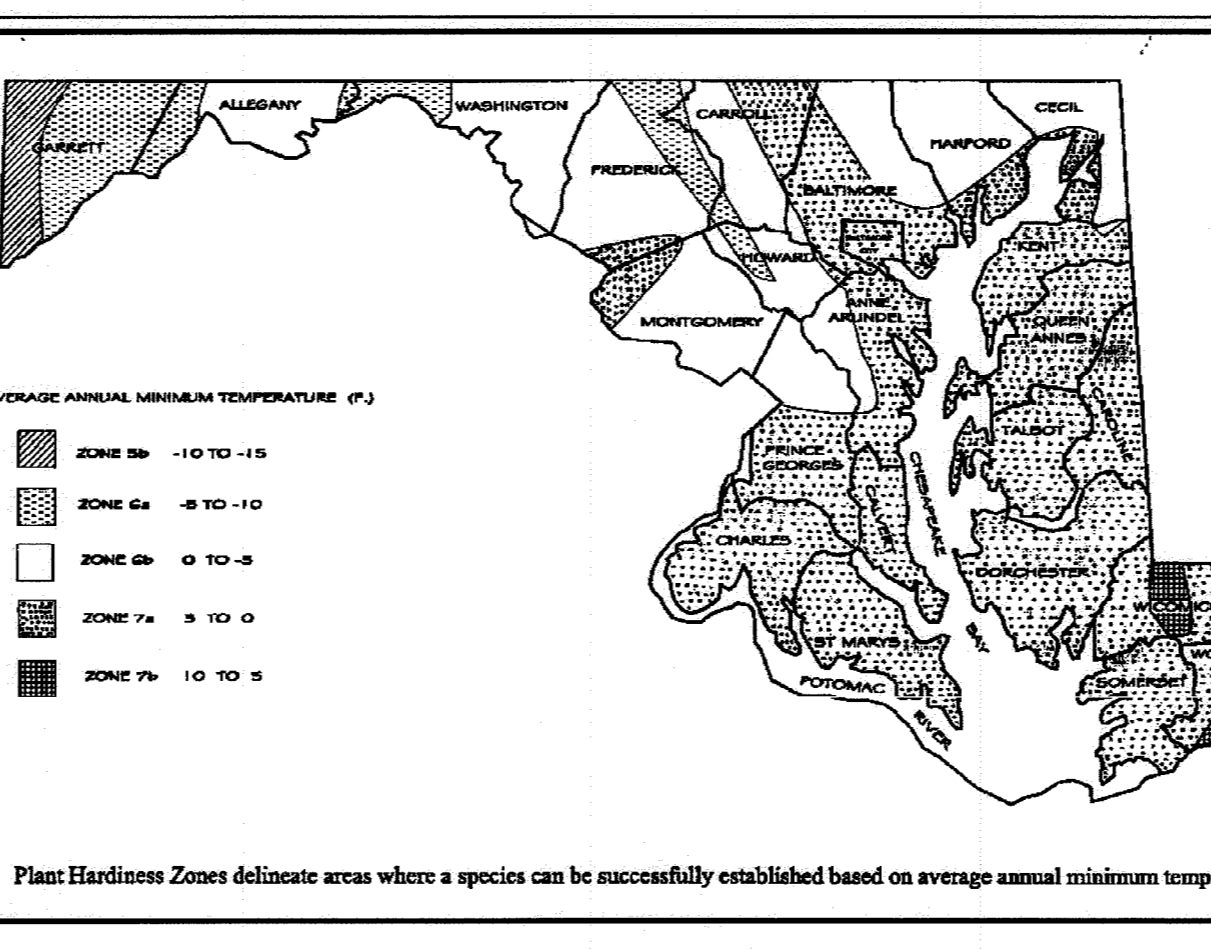

Figure B.3: U.S.D.A. Plant Hardiness Zones
- 1. Select one or more of the species or seed mixtures listed in Table B.1 for the appropriate Plant Hardiness Zone (from Figure B.3)...
a. Select one or more of the species or mixtures listed in Table B.3 for the appropriate Plant Hardiness Zone (from Figure B.3)...